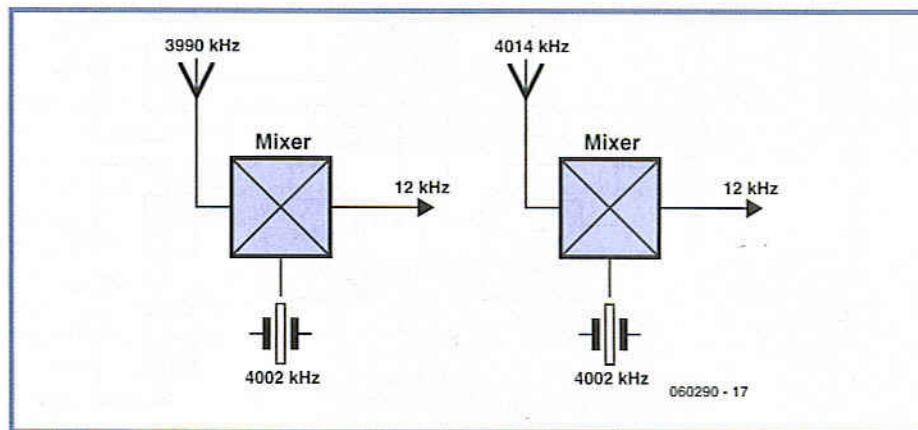

Figure 1. Image frequencies.
**Figure 1** illustrates this problem in a worked example. A signal on 3990 kHz is to be mixed down to 12 kHz. The mixer oscillator operates at  $3990 \text{ kHz} + 12 \text{ kHz} = 4002 \text{ kHz}$ . In the process an image response arises at  $4002 \text{ kHz} + 12 \text{ kHz} = 4014 \text{ kHz}$ . We can only hope that there is no strong signal present at the 'wrong' frequency.